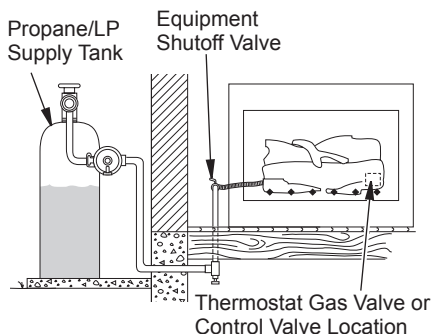

Figure 19 - Checking Gas Joints (Propane/LP Only)
3. Check all joints from gas meter to equipment shutoff valve for natural gas or propane/LP supply to equipment shutoff valve for propane/LP (see Figure 19). Apply noncorrosive leak detection fluid to all joints. Bubbles forming show a leak.
4. Check all joints from equipment shutoff valve to thermostat gas valve (Thermostat-Controlled Models), to control valve (Manually-Controlled Models), or to gas control (Remote-Ready Models) (see Figures 19 and 20). Apply noncorrosive leak detection fluid to all joints. Bubbles forming show a leak.